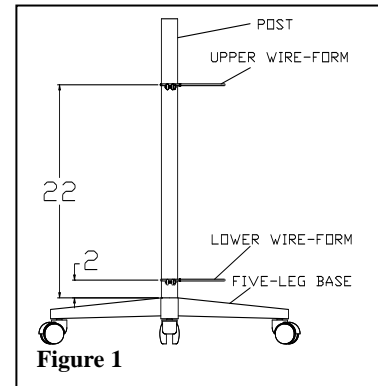

Figure 1
1. Before the upper portion of the VME is assembled onto the post, slide the two wire-form restraints over the post (see Figure 1). Position a wire-form restraint 2 inches from the top of the five-leg base and tighten the screw and nut. Position the other wire-form restraint 22 inches from the top of the five-leg base and tighten (note: the large opening in the upper wire-form must be positioned directly over the large opening of the lower wire-form; and the upper portion of the VME is to be attached so that the oxygen cylinder will be positioned at the back).